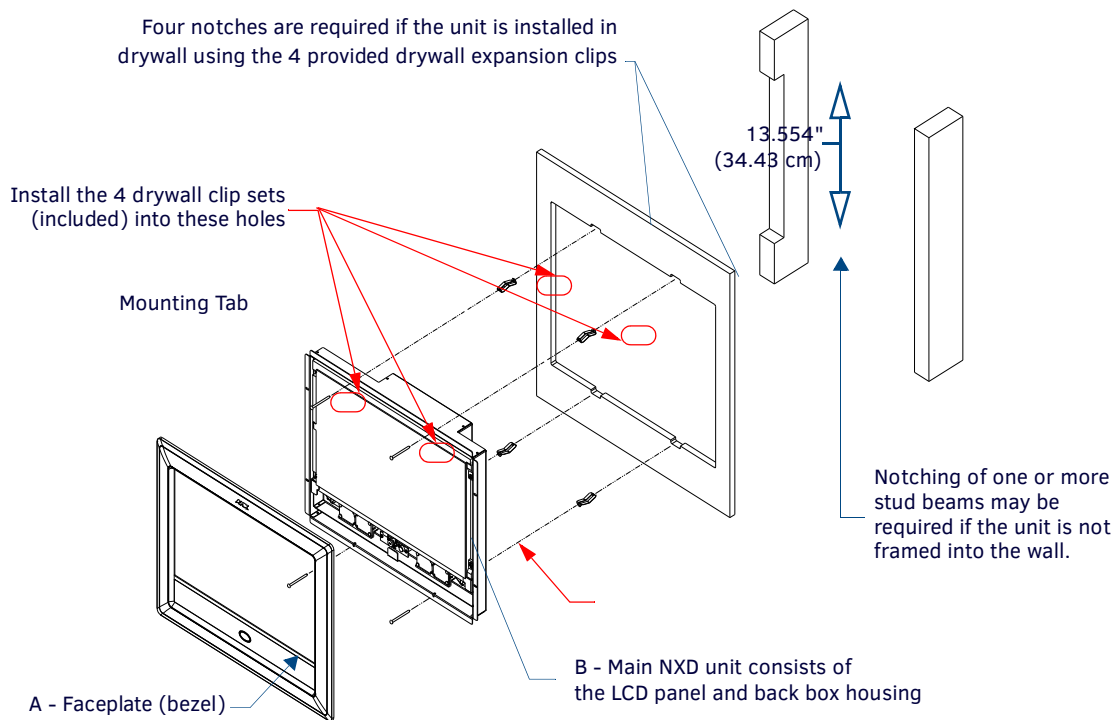

FIG. 59 Wall Mount panel (NXD) installation using expansion clips
5. Remove the magnetic faceplate/bezel (**A** in FIG. 59) from the main NXD unit (**B** in FIG. 59) by gripping the faceplate and pulling with gentle outward force.
15. Install the four sets of drywall screws and expansion clips into the four oval notch locations along the top/bottom edges of the main unit (FIG. 59). Make sure the top drywall clip grooves face upwards and the bottom clip grooves face downwards (so they extend away from the Main unit).
16. **Carefully insert the main unit (with expansion clips) into the cutout until the Mounting Tabs on the NXD unit lie flush against the wall** (FIG. 59). Make sure to have the right side of the box resting against the non-notched beam (on the right) and the connector-side of the unit pressed into the notched beam (on the left).
18. Place the magnetic faceplate (**A** in FIG. 59) back onto the main NXD unit. Make sure to align the Microphone, Light, and PIR Motion sensor locations to their respective openings on the front bezel/faceplate.